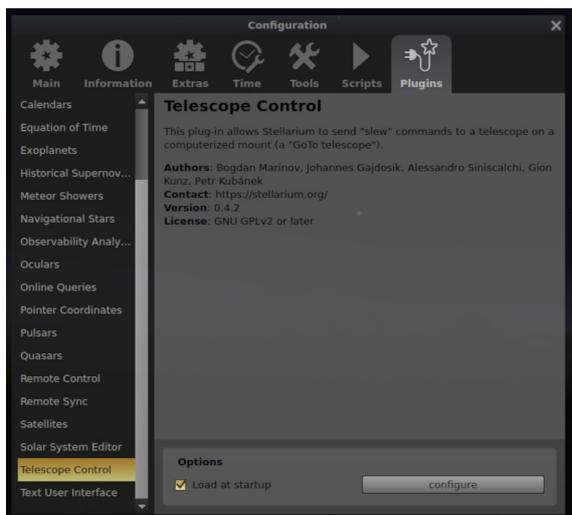

Figure 10: The *Plugins* menu of *Stellarium*, where the INDI interface is selected.
- Start *Stellarium*, open the *Configuration Window* in the left popup menu (or by pressing F2), scroll to *Plugins* → *Telescope Control*, check *Load at startup* and click *configure*. See also Fig. 10.